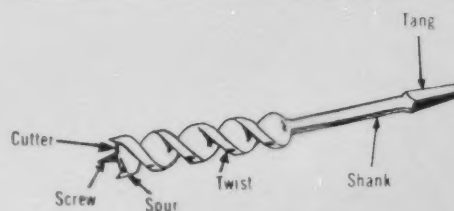

Figure 1-98. Parts of an Auger Bit
b) An auger bit is a screw-shaped tool comprising six basic parts: cutter, screw, spur, twist, shank, and tang, as shown in Figure 1-98. Sizes of auger bits are indicated in sixteenths of an inch and are stamped on the tang. A number 10 stamped on the tang means $10/16$ " or $5/8$ " (16 mm).